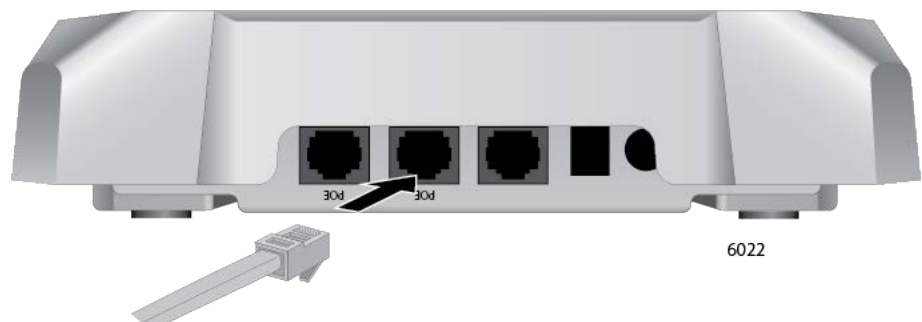

Figure 22. Connecting an Ethernet Cable to the LAN1 Port
1. To cable LAN1 port, connect an Ethernet cable into the port. The cable requirements are in “Cable Requirements” on page 18. Refer to Figure 22.